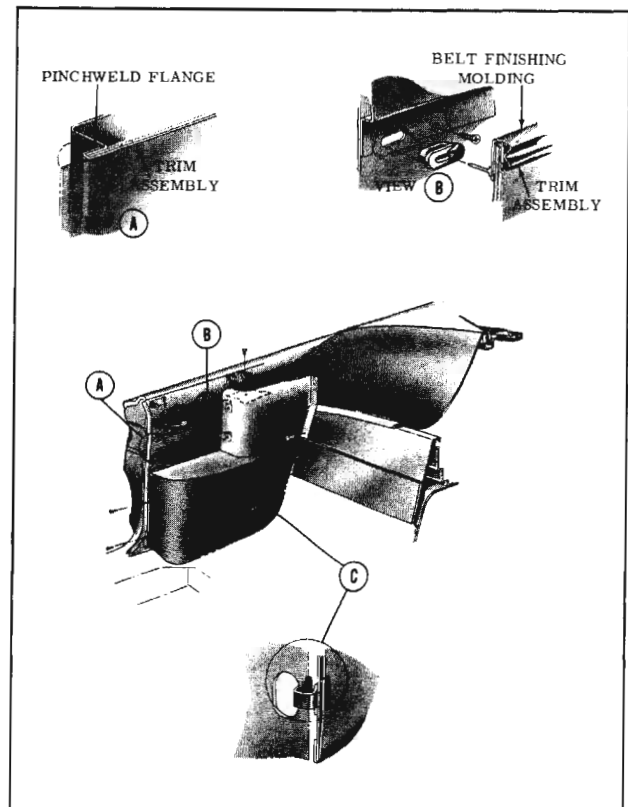

Fig. 16-270 Rear Quarter Trim Assemblies
4. Pivot trim assembly forward using forward edge, which overlaps pinchweld and is cemented to pinchweld flange outboard surface, as a hinge (View "A", Fig. 16-270)
2. Remove screws securing folding top compartment side trim panel assembly. (Fig. 16-270) Disengage side trim panel assembly retainer from folding top compartment brace. Disconnect electrical leads, where present, and remove side trim panel assembly.
3. Disengage pinchweld finishing strip from pinchweld flange immediately adjacent to trim assembly upper section. Using trim pad removing tool J-6335, disengage trim assembly retaining nails from inner panel along upper edge of trim assembly (View "B", Fig. 16-270).
4. Pivot rear edge of trim assembly forward, using forward edge, which overlaps pinchweld and is cemented to pinchweld flange outboard surface, as a hinge (View "A", Fig. 16-270).